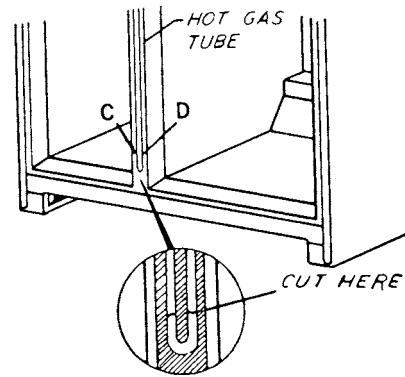

Fig. 12-21 Where to cut the hot-gas tube for repair? (Kelvinator)
7. Cut 2 in. from the bottom of the mullion hot tube at the U-bend. Deburr the remaining tubes C and D. See Fig. 12-21.